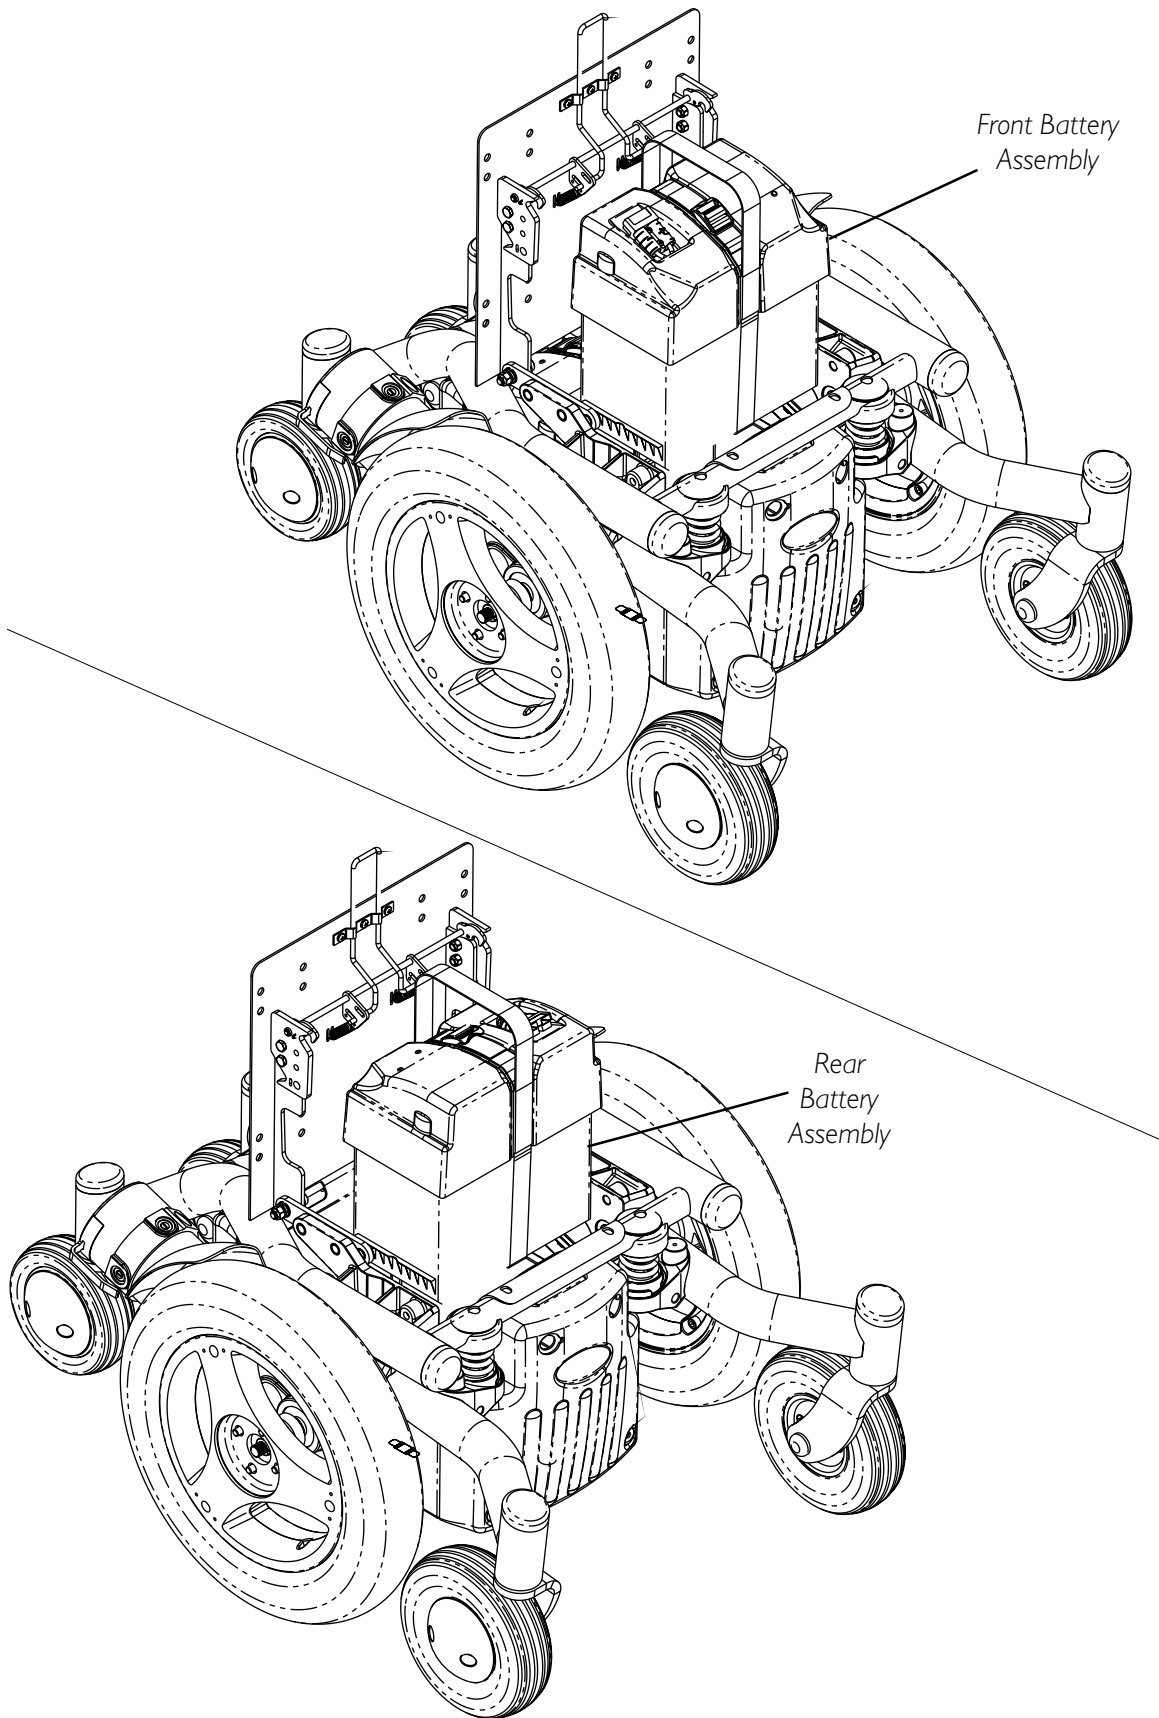

FIGURE 3 - REMOVING/INSTALLING BATTERY ASSEMBLIES
8. Lift the front battery assembly out of the base frame. Refer to DETAIL “A” in FIGURE 3).
9. Slide rear battery assembly forward and lift out of base frame as shown in DETAIL “B” in FIGURE 3.
1. Install the rear battery assembly into the base frame in the orientation shown in DETAIL “B” in FIGURE 3 .
3. Install the front battery assembly into the base frame in the orientation shown in DETAIL “A” in FIGURE 3 .